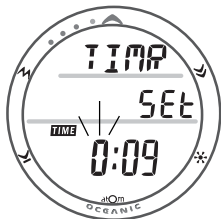

Fig. 19 - SET WATCH CDT
- Depressing both the A and S buttons simultaneously for 2 seconds will access the **SET WATCH COUNT DOWN TIMER** screen indicated by the graphics TIMR and SET, symbol TIME, and HOUR Set Point flashing (Fig. 19).